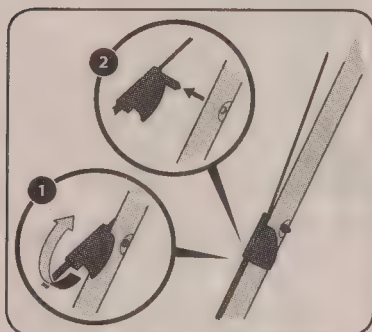

Figure 4-3
1. Rotate the drive cable fitting located on the left upper handle upward. See Figure 4-3.